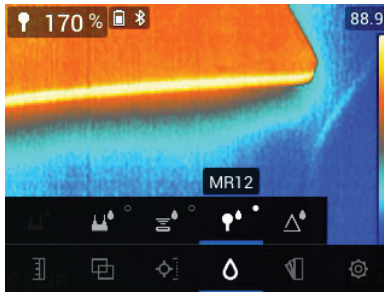

Figure 7.12 Selecting the MR12 (optional Ball Moisture probe) mode
MR12 mode must be selected when the optional MR12 Ball Moisture probe is used. Connect the MR12 to the accessory RJ jack on the bottom of the MR277 (under the protective flap) and then select the MR12 from the Moisture Mode menu as shown in **Figure 7-12**.
- Select the MR12 probe option in the menu (*Moisture Mode/MR12*); see **Figure 7-12** above.